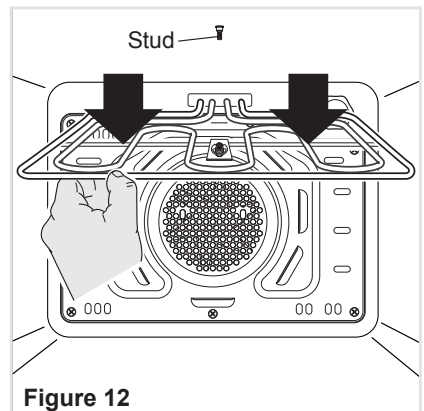

Figure 12
- The grill is secured to the rear wall of the oven on a hinge system that allows it to be lowered to allow proper access when cleaning the oven ceiling (fig. 12).